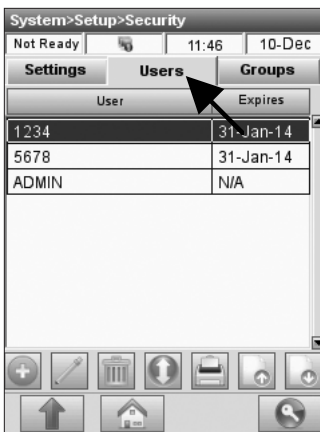

Fig. 3-58 Users
3. Select the **<Users>** tab (Fig. 3-58).
4. Press  (Fig. 3-58) to enter a new user to be added to the list of authorized users. The analyzer can store up to 300 user IDs.